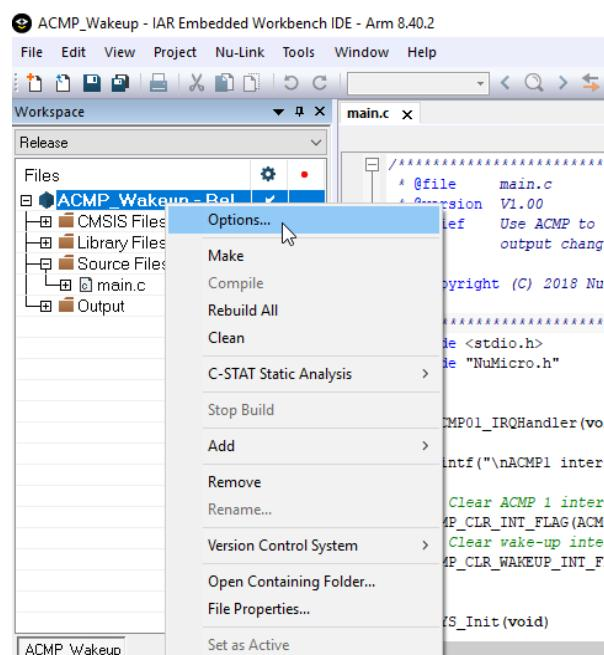
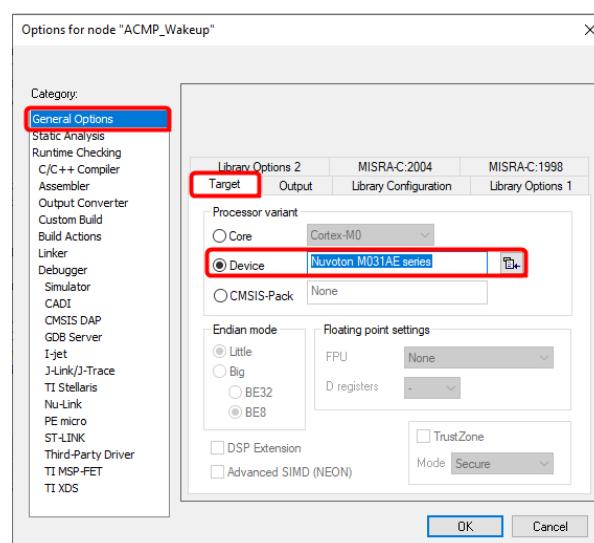

Figure 5.2-26 Options Selection
Figure 5.2-27 IAR EWARM Target Chip Selection
- (1) Install IAR EWARM. Make sure that Nu-Link\\_IAR\\_Driver for IAR EWARM has been downloaded and installed before setting the Nu-Link2-Pro such that the IAR EWARM can recognize the Nu-Link2-Pro.
- (2) Open IAR EWARM, and open the project to be set.
- (3) In the **Target** tab of the **General Options** page (through invoking **Project → Options**), click the button in the right of the **Device** option (make sure the **Device** option is enabled), and select “**Nuvoton → Nuvoton M031AE series**” as the target chip (M031AE series is this case), as shown in Figure 5.2-26 and Figure 5.2-27.